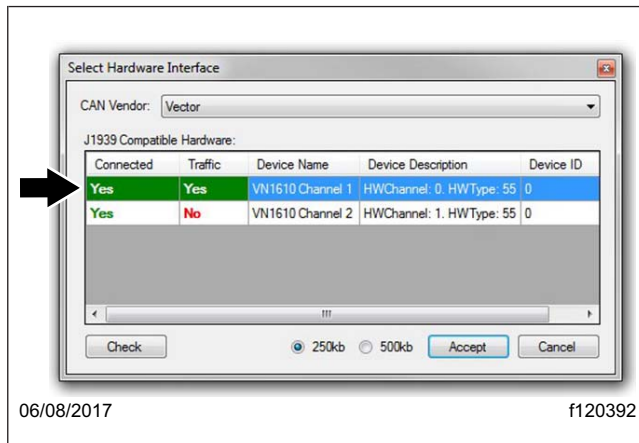
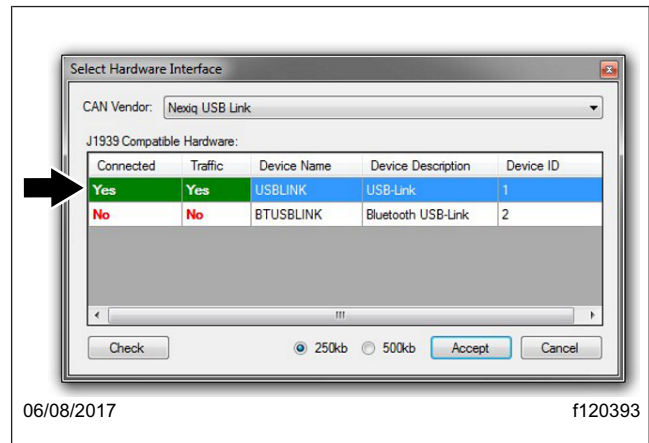

Fig. 2, Select Hardware Interface Screen, Vector Hardware
Fig. 3, Select Hardware Interface Screen, Nexiq Hardware
4. Select the "Check" button in the "Select Hardware Interface" window to determine which hardware devices are available on the laptop. **Fig. 2** shows Vector hardware options, and **Fig. 3** shows Nexiq USB Link options.
6. Once "Yes" appears green in both the "Connected" and "Traffic" columns, highlight that hardware option and select the "Accept" button. See Fig. 2 and Fig. 3.
18. Select the "Check" button in the "Select Hardware Interface" window to determine which hardware devices are available on the laptop. **Fig. 2** shows Vector hardware options, and **Fig. 3** shows Nexiq USB Link options.
20. Once "Yes" appears green in both the "Connected" and "Traffic" columns, highlight that hardware option and select the "Accept" button. See **Fig. 2** and **Fig. 3**.